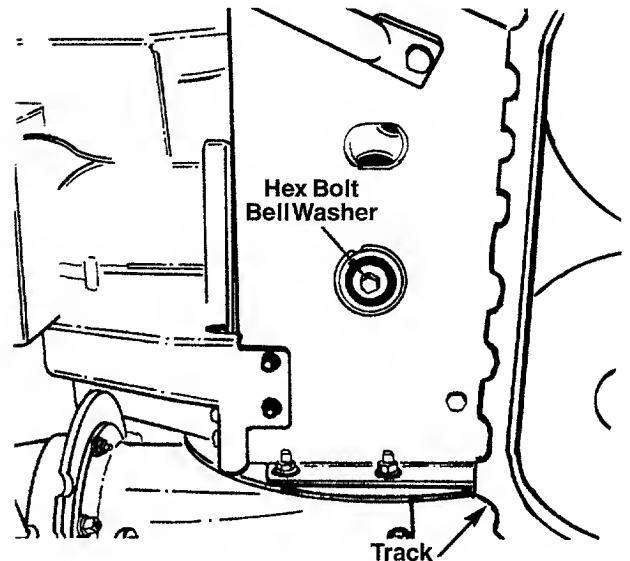

FIGURE 25
- Using a 7/8" wrench to hold the shaft, loosen, but do not completely remove, the hex bolt and bell washer from the left end of the shaft. See figure 25.